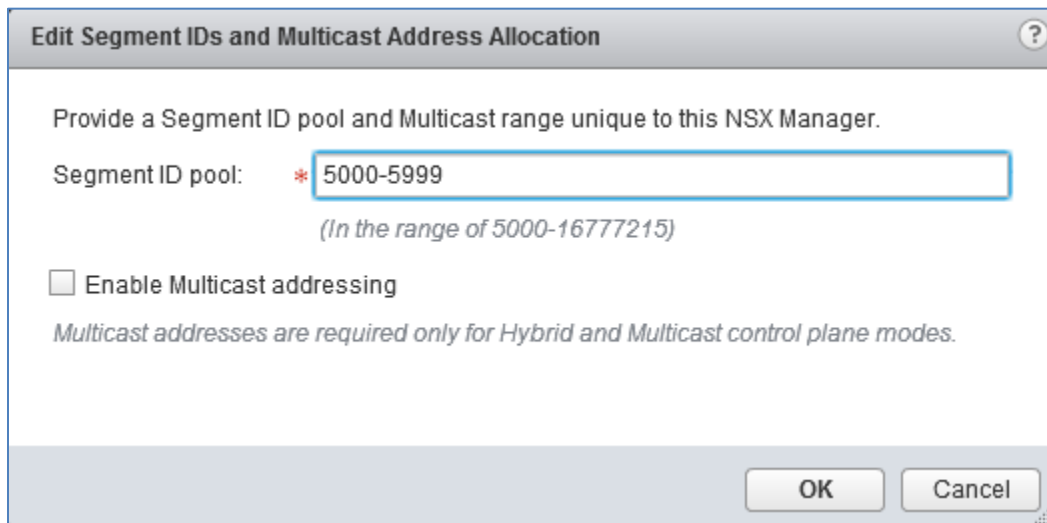

Figure 76 Segment ID pool dialog box
3. Leave the remaining items at their defaults, as shown in Figure 76 and click **OK**.